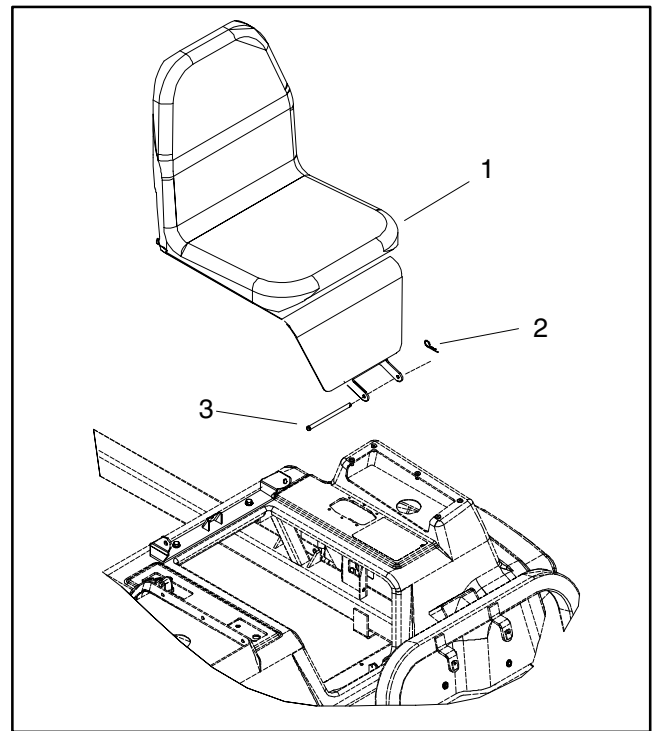

Figure 21
3. Remove seat assembly by tilting seat forward and removing hitch pin and clevis pin (Fig. 21).
6. Remove eight (8) flange head screws that fasten seat base to machine. During screw removal, locate and remove washers and spacers. The two (2) screws directly behind the front wheels are secured with flange nuts (Item 7).